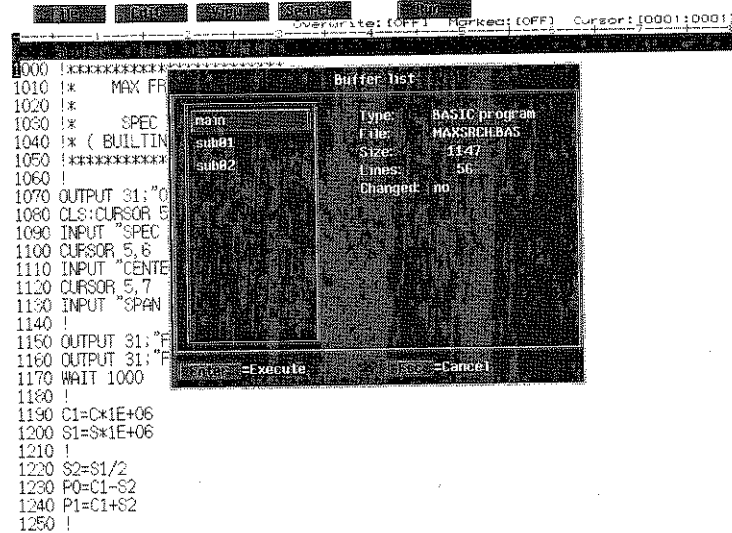

Figure 7-1 Dialog Box of **Buffer list ...** Command
When the **Buffer list ...** is executed, a dialog box as shown in Figure 7-1 appears. Select a file to be edited.
1. Execute the **Buffer list ...** command from the F3 : View menu, a dialog box as shown in Figure 7-1 appears.